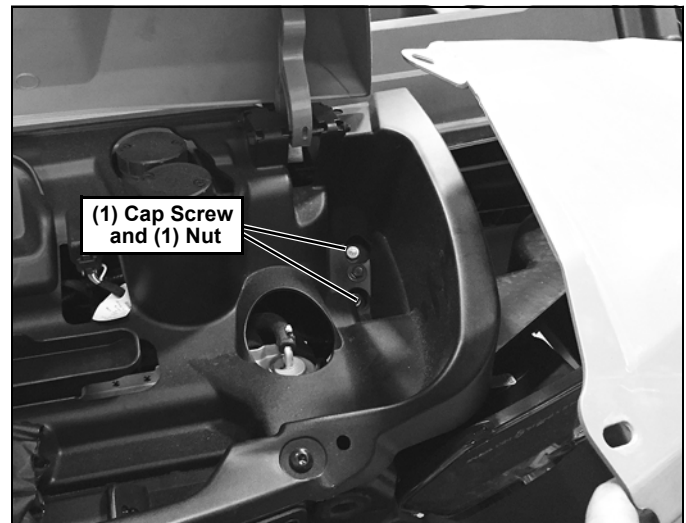

Figure 2
2. Gently pull the drivers side fender away from the UTV to gain access to the (1) Cap Screw and (1) Nut that hold the top of the bumper/brush guard in place. Loosen but do not remove the (1) Cap Screw and (1) Nut. (See Figure 2.)